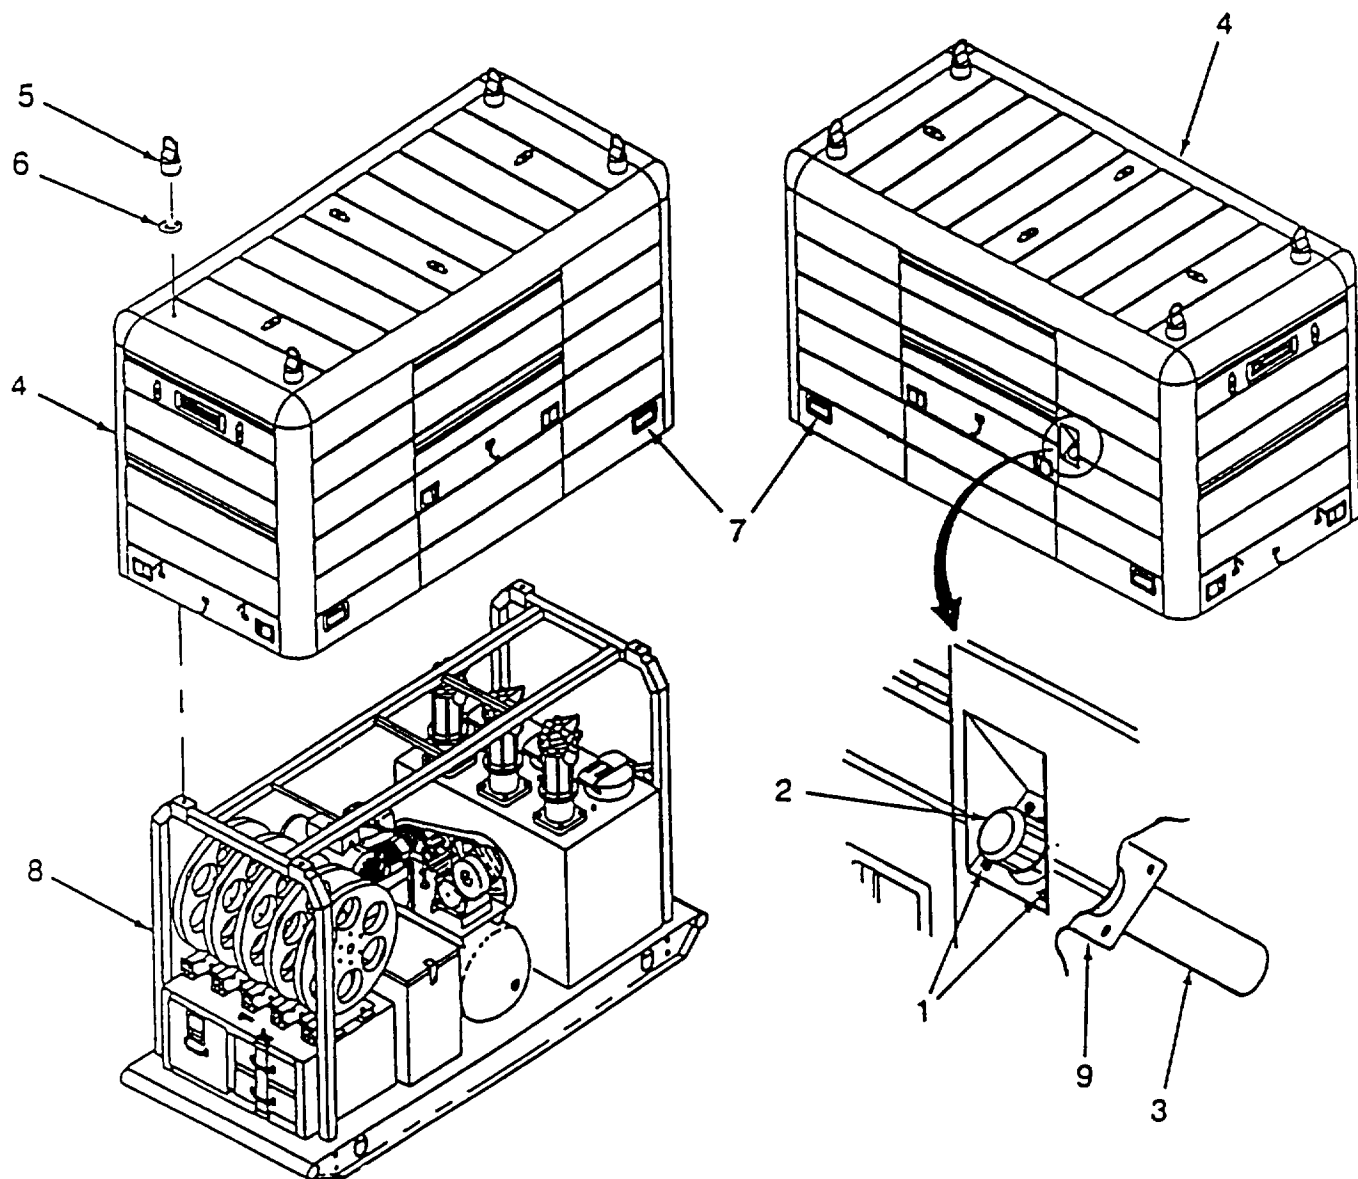

Figure 4-1. Enclosure Assembly
a. Removal. (Refer to Figure 4-1.)
- (1) Remove four thumb screws (1) to release fuel cap (2) and neck assembly (3) from enclosure (4).
- (2) Remove four lifting rings (5) and four washers (6) from enclosure (4).
- (3) Position one person at each corner of enclosure (4)
- (4) Locate and grasp lifting handles (7)
- (5) Lift enclosure (4) straight up and over skid assembly (8), making sure neck assembly (3) clears opening in enclosure.
- (6) Place enclosure (4) onto firm level ground.